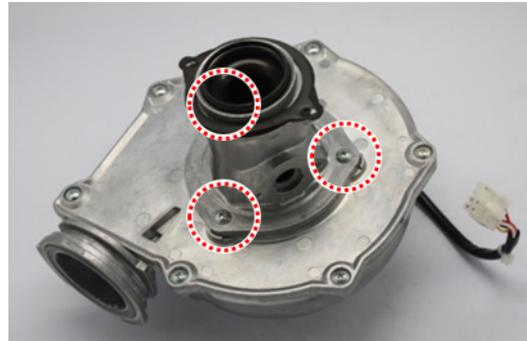

Figure 6
12. Attach the gas valve connection back to the fan assembly by using the 3 screws as shown in figure 6.